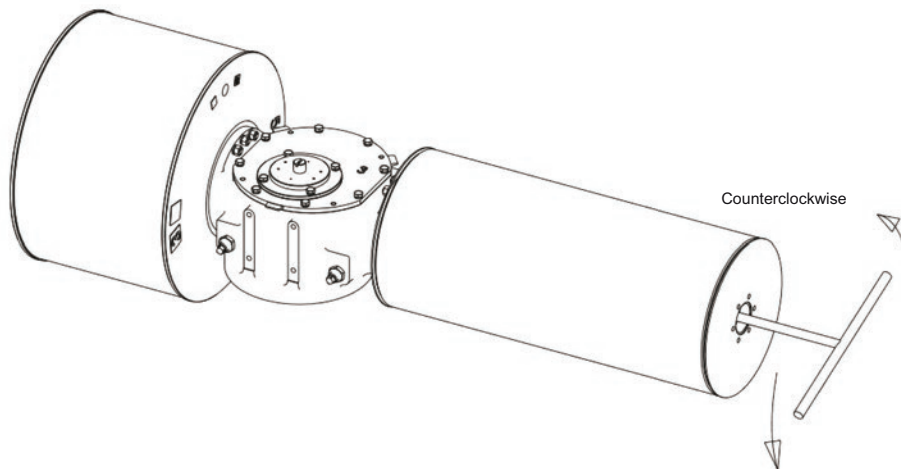

Figure 20
- Use the special tools provided by the factory to extend into the spring module and insert into the end of the spring rod, see Figure 20.
- Rotate the special tool counterclockwise in the direction shown in Figure 20 to completely disengage the spring rod from the transmission joint. Refer to Table 9 for the number of rotations.